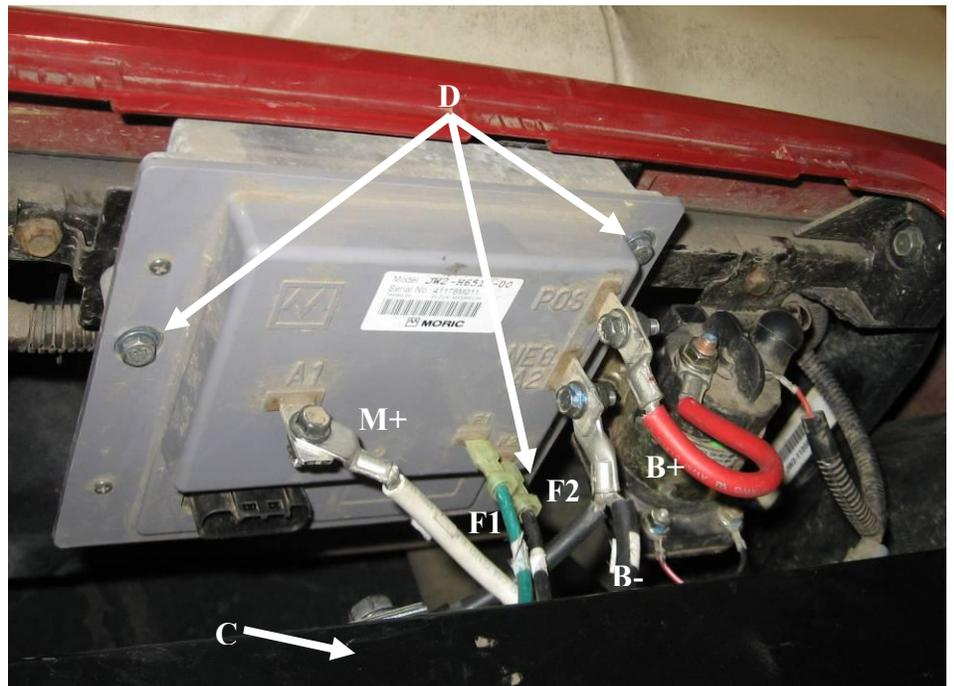

Figure 1
5. Label all wires going to the controller as indicated in **Figure 1**.
6. Remove all wires and the mounting bolt for the harness (**Figure 1-C**).
7. Remove the three screws securing the controller to the cart. Remove the controller. (**Figure 1-D**).